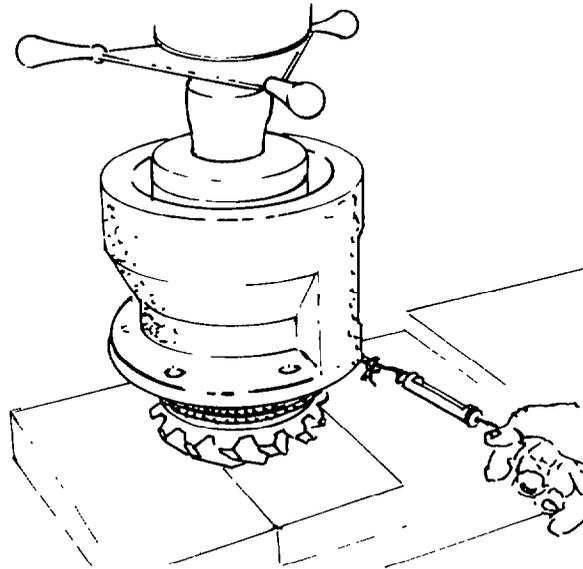

Fig. 307 — Checking Bearing Pre-loading
- i. Using the hydraulic press, apply 15 450 kg (34 000 lb) pressure to the outer cam. Wrap a cord several times around the bevel pinion housing at the pilot area, then attach a suitable spring scale to the end of the cord. Pull on the scale with a slow and steady pull until the housing rotates. The correct load on the scale to keep the housing turning slowly and evenly is 1.3 – 2.72 kg (3 – 6 lb). If the reading on the scale is not within the correct range, replace the spacers with thicker or thinner spacers as necessary to obtain the correct bearing preload (see fig. 307).